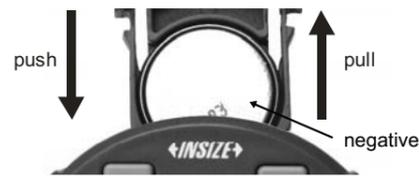

Fig.1
- Install and remove battery(CR2032), the negative side of battery should face out (Fig.1).